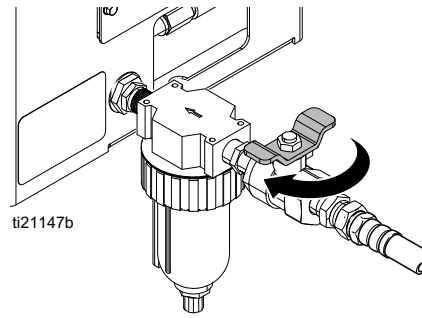

FIG. 11
- Attach a 3/8 in. minimum air supply line to air filter. See FIG. 11.